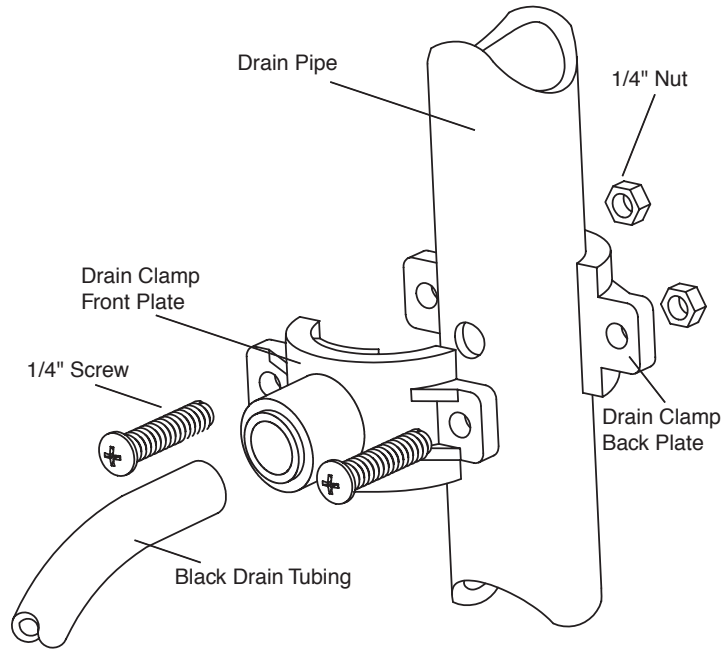

Figure 4
- Refer to Fig. 4, page 12. Insert the tubing into the Drain Clamp. Make sure the tubing is pressed all the way in to create a pressure tight connection.